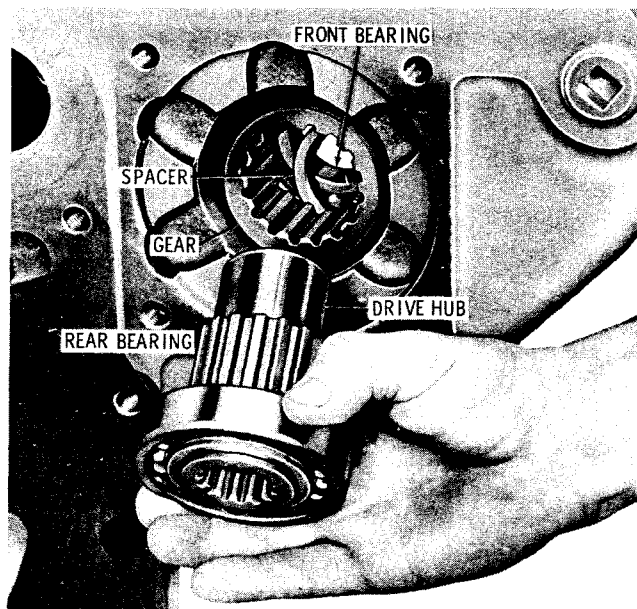

Fig. 5-23. Removing pump drive components
(20) Remove the pump drive hub and rear bearing by driving the hub rearward (fig. 5-23). Remove the gear, spacer and front bearing. Remove the rear bearing from the drive hub only if replacement is necessary.